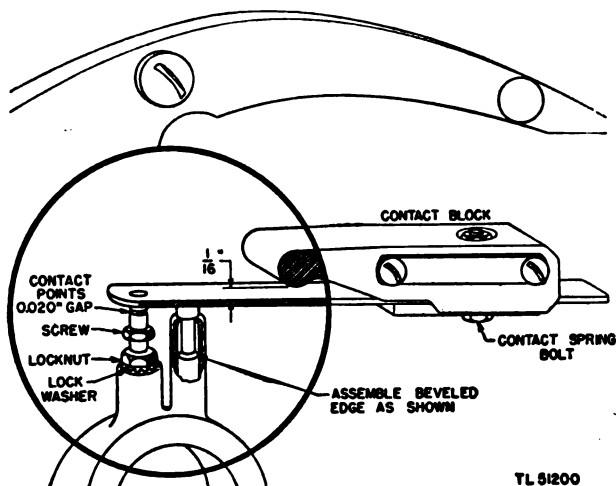

Figure 60. Magneto contact points on Briggs and Stratton engine.
(3) *Adjusting contact points* (fig. 60). While the magneto plate is on the motor crankcase, turn the crankshaft by hand and check the contact points for proper opening and closing action. Contact points must be clean and must line up squarely to make good electrical contact. *Do not file contact points.* Fine sandpaper or a fine grit hone may be used to clean the points. If the contact points are out of line, line them up as follows: